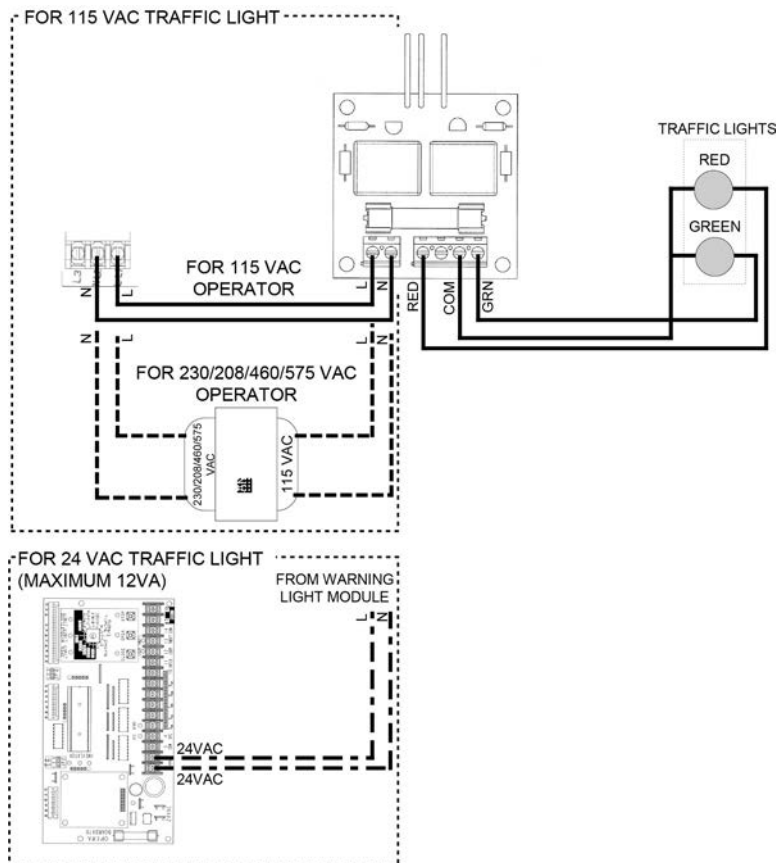

Figure 2 - Traffic Light Wiring Diagram
- b) Connect traffic light as per Figure 2 below.
- d) Connect traffic light as per Figure 2 below.
- g) Connect traffic light as per Figure 2 below.